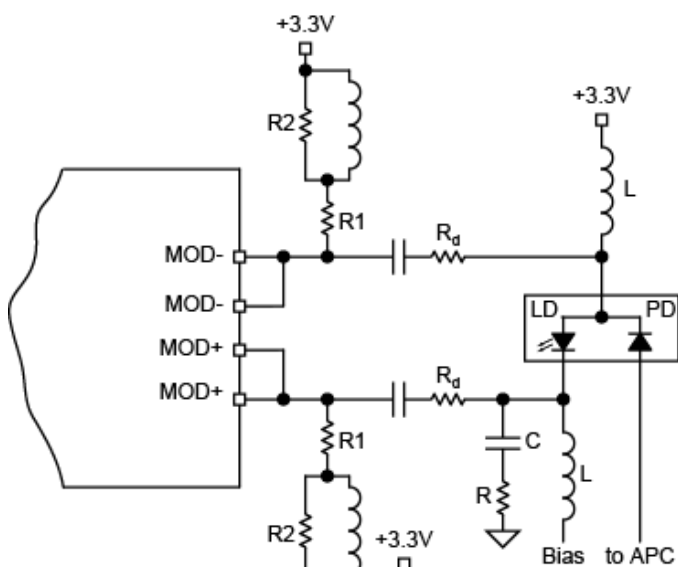

Figure 4. Laser AC-Coupled
On the other hand, the smaller the value of R_d , the higher is the overshoot/undershoot on the optical signal from the laser. In the circuit shown in Figure 4, the RC compensation network across the driver outputs (MOD+ and MOD-) allows the user $R_d = 10\Omega$. The optical eye diagrams at data rates of 1.25Gbps, shown in "Functional Characteristics" section, are all obtained with the same circuit using $R_d = 10\Omega$, $R_{Comp} = 100\Omega$, and $C_{Comp} = 3pF$. The compensation network may change from one board to another and from one type of laser to another. An additional compensation network (RC) can be added at the laser cathode for further compensation and eye smoothing.
When trying to AC-couple the laser to the driver, the headroom of the driver is no longer a problem since it is DC isolated from the laser with the coupling capacitor. At the output, the headroom of the driver is determined by the pull-up network. In Figure 4, the modulation current out of the driver is split between the pull-up network and the laser. If, for example, the total pull-up resistor is twice the sum of the damping resistor and laser equivalent series resistance, then only two thirds (2/3) of the modulation current will be used by the laser. Therefore, to keep most of the modulation current going through the laser, the total pull-up resistor must be kept as high as possible. One solution involves using an inductor alone as pull-up, presenting a high impedance path for the modulation current and zero ohm (0Ω) path for the DC current offering headroom of the driver equal to V_{CC} and almost all the modulation current goes into the laser. The inductor alone will cause signal distortion, and, to improve this phenomenon, a combination of resistors and inductors can be used (as shown on Figure 4). In this case, the headroom of the driver is $V_{CC} - R_1 \times \alpha I_{MOD}$, where αI_{MOD} is the portion of the modulation current that goes through the pull-up network.